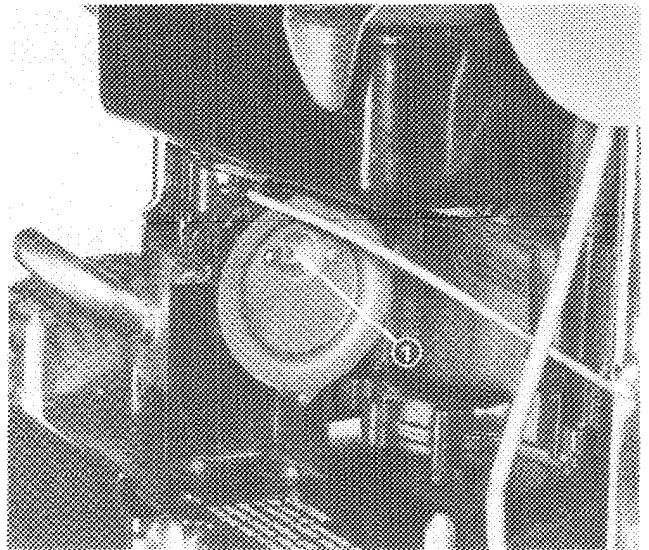

Figure 25
3. Move throttle control to **CHOKE** position and try to start the engine. If engine starts, throttle control is adjusted correctly. If engine does not start or starts hard, remove air cleaner, loosen cable clamp screw and adjust control arm so choke butterfly in carburetor is fully closed (Fig. 25). Then tighten cable clamp screw. If hard starting still persists, the carburetor may need adjusting.